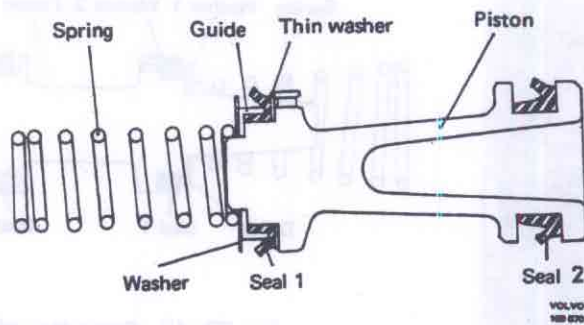

Fig. 52-19. Primary piston
4. Fit all the primary piston parts, see Fig. 52-19. Carefully insert the piston in the cylinder. Push in the pistons and fit the thrust washer and lock ring in position on the outside of the primary piston. This is made easier if the primary piston is held pressed in with the help of a 3 mm (1/8") drift through the by-pass hole.